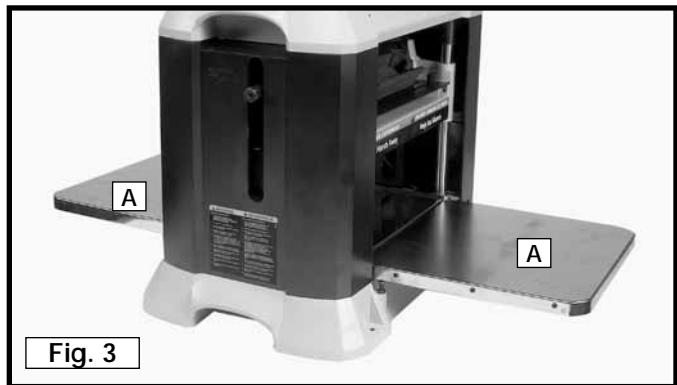

Fig. 3
The infeed and outfeed table extensions (A) Fig. 3 are shipped in the "UP" position on the machine. Lower both table extensions (A) to the "DOWN" position (Fig. 3). To check and adjust the top surface of the table extensions (A) level with the planer table, refer to the section of this manual entitled "LEVELING TABLE EXTENSIONS."